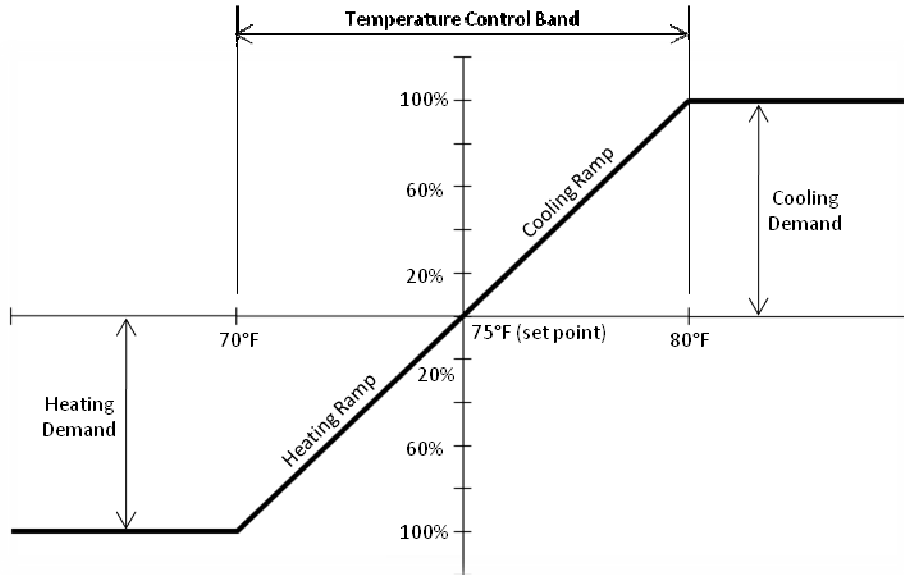

Figure 5-1: Temperature Control Ramps for Proportional Control
Proportional (P) Control: A setpoint and a control band are defined in the system setup. System demand is calculated proportionate to the deviation from the setpoint, based on the control band. The demand modulates from 0% to 100% as the measured variable moves from the setpoint to setpoint + (control band/2). Figure 5-1 illustrates a proportional control scheme for temperature. In the example, the control band is 10°F with a setpoint of 75°F. In the example illustrated here, at 80°F, the demand for cooling would be 100% and at 70°F the demand for heating would be 100%. A rise of temperature of 1 above setpoint would cause a cooling demand of 20%.
In the example shown in Figure 5-1, cooling or heating demand begins upon any deviation from the set point. In order to create a 1°F dead band on the cooling ramp, COOLING START would be set to 20% and COOLING END would be set to 80%.